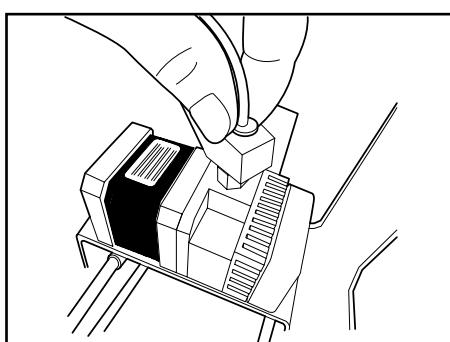

Figure 6.2 Press down on the connector and pull the Fibonacci tube upwards
- 3 Detach the Fibonacci guide tube from the extruder by pressing down on the connector and pulling the tube upwards (fig. 6.2).